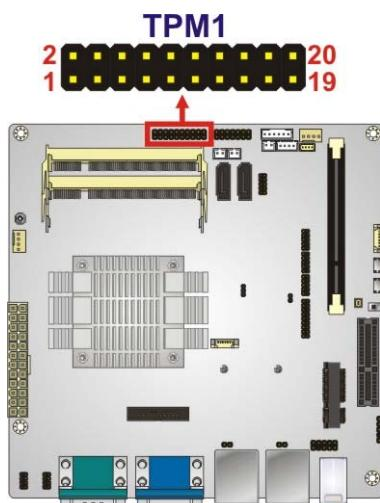

Figure 3-28: TPM Connector Location
**CN Location:** See Figure 3-28